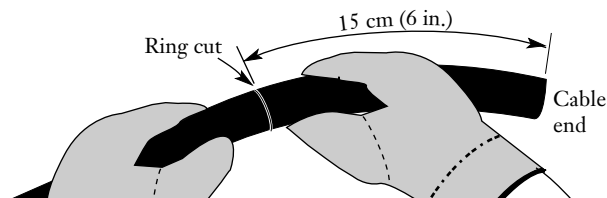

Figure 4
5.4 Gently bend the cable at this second ring cut to break the armor (Figure 4). DO NOT violate the minimum bend radius of the cable during this step.